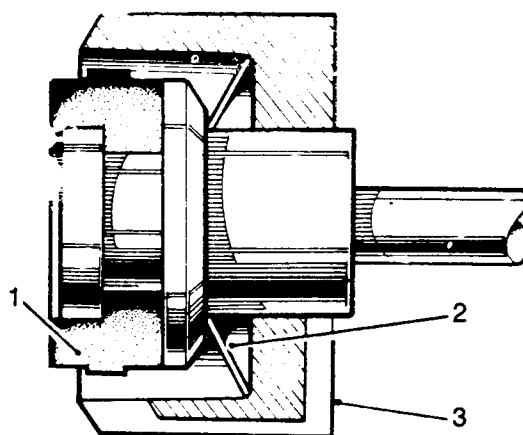

Fig H3.22
- (3) Refer to Fig H3.22. Fit the valve seal (1), flat side first, on to the end of the valve stem (2).
- (4) Fit the spacer (3), legs first.